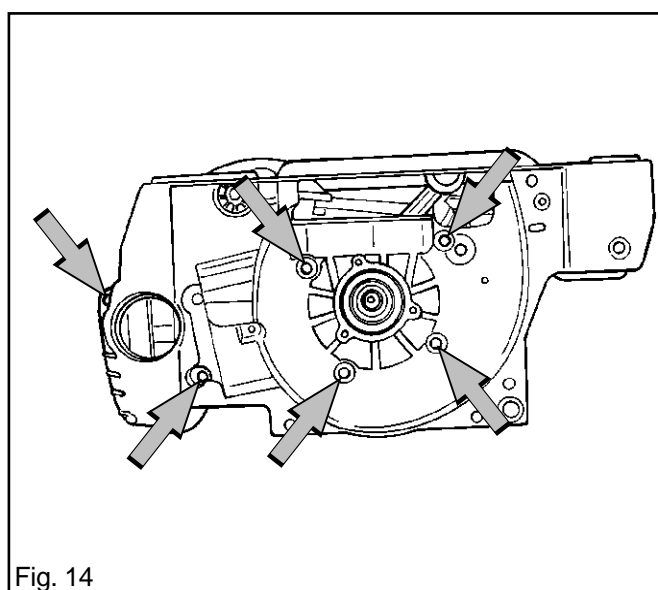

Fig. 14
6. Insert the six bolts and tighten them in rotation. Tighten them finally to 8 Nm. See fig. 14.